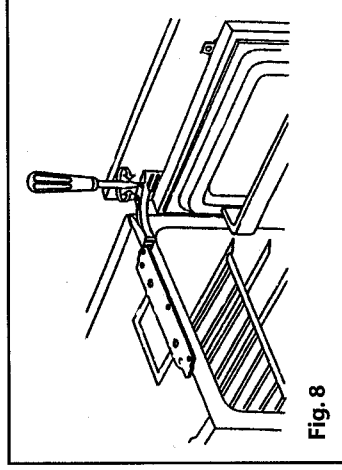

Fig. 8
12. Re-adjust the alignment as necessary (see Fig. 8)